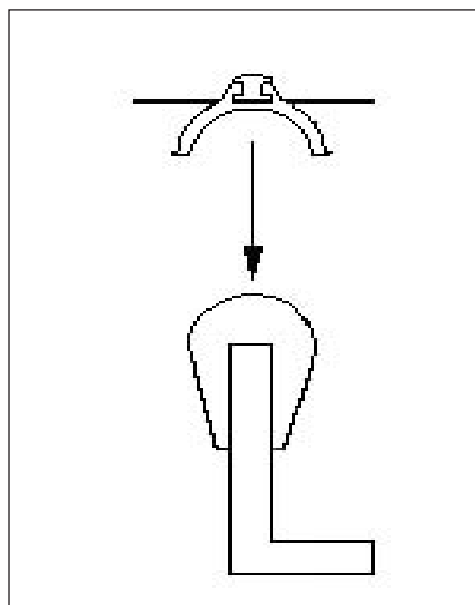

Figure 6.22 - Cushion Rubbers
12. When fitting speed harp wire spacers they will fit snugly on top of the screen cushion rubbers as shown in Figure 6.22.